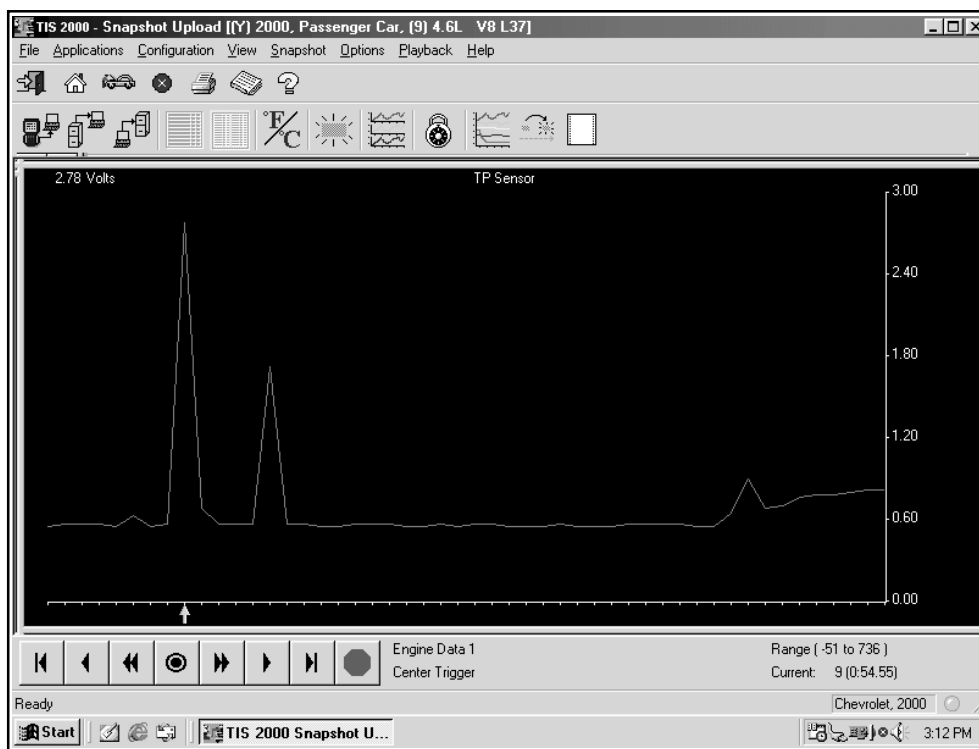

Figure I-75, Graph at Full Screen Size
7. To view a graph at full-screen size, move the cursor over the graph. When the cursor changes to a magnifying glass, click on the graph. The graph will appear at full-screen size (Figure I-75). Single-click on the full size graph to return to the three-graph display.